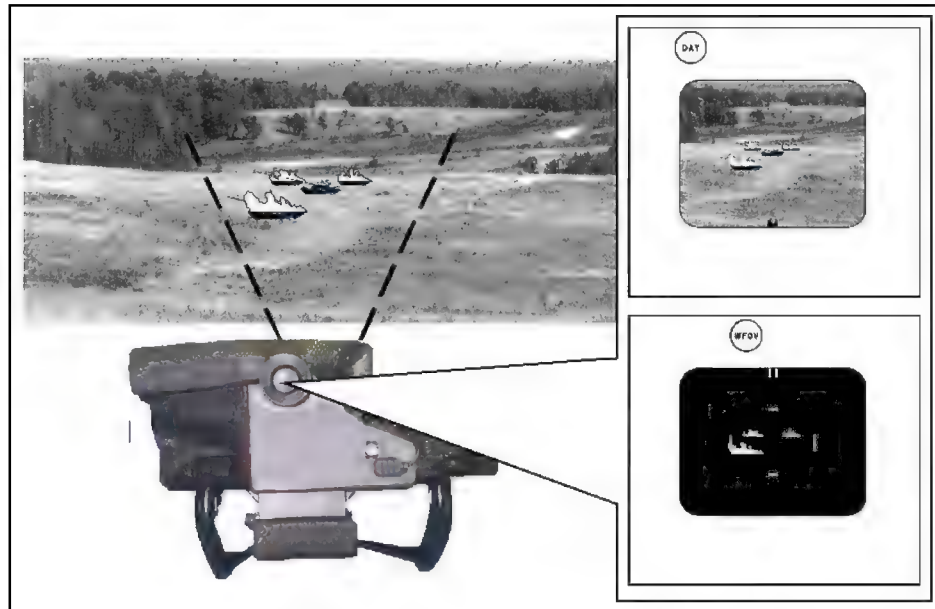

Figure E-28. Effects of man-made clutter on NVS target scene.
- Man-made infrared clutter. Man-made clutter is when conditions exist that are influenced by human activity that affects objects in the target scene. When the target is in the area that has flames (burning vehicles or buildings), this can work for the gunner and, at the same time, against him. The enemy vehicle may be able to use the flames to hide, thus making it difficult for the seeker to obtain a lock on. However, based on the ΔT 's, the gunner may be able to detect the target (Figure E-28).